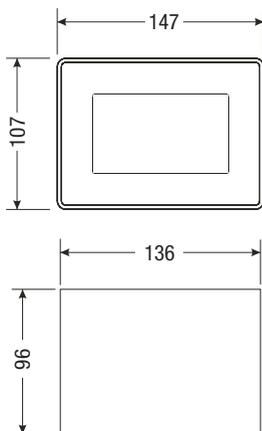

Fig. 3
- Provide a control panel cut-out with the dimensions indicated in **Fig. 3 and 4**.